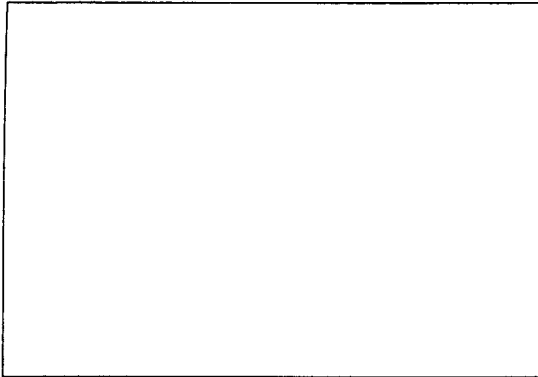

Fig. 3: Using the CU 40 optional charger.
Refer to fig. 3:
To charge the battery, insert the transmitter (1) into the optional CU 40 charger (2) as shown in fig. 3.